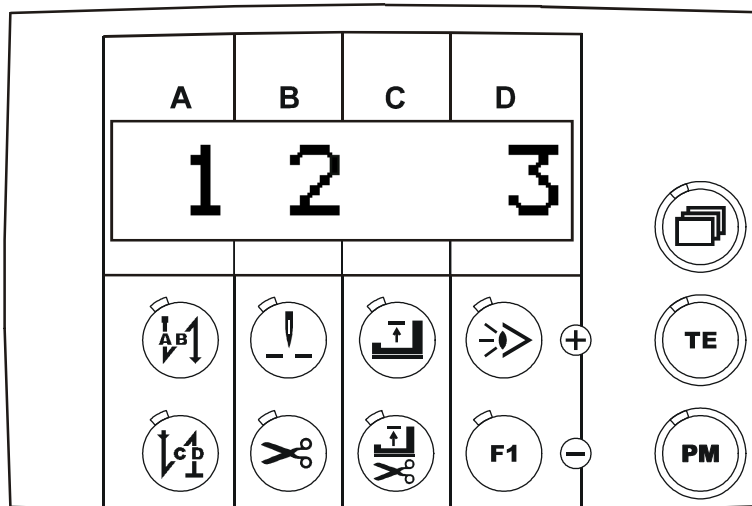

Fig. 9.9
- Keep these two keys pressed until "1 2 3" (**Fig. 9.9**) appears on the display; then release the keys.